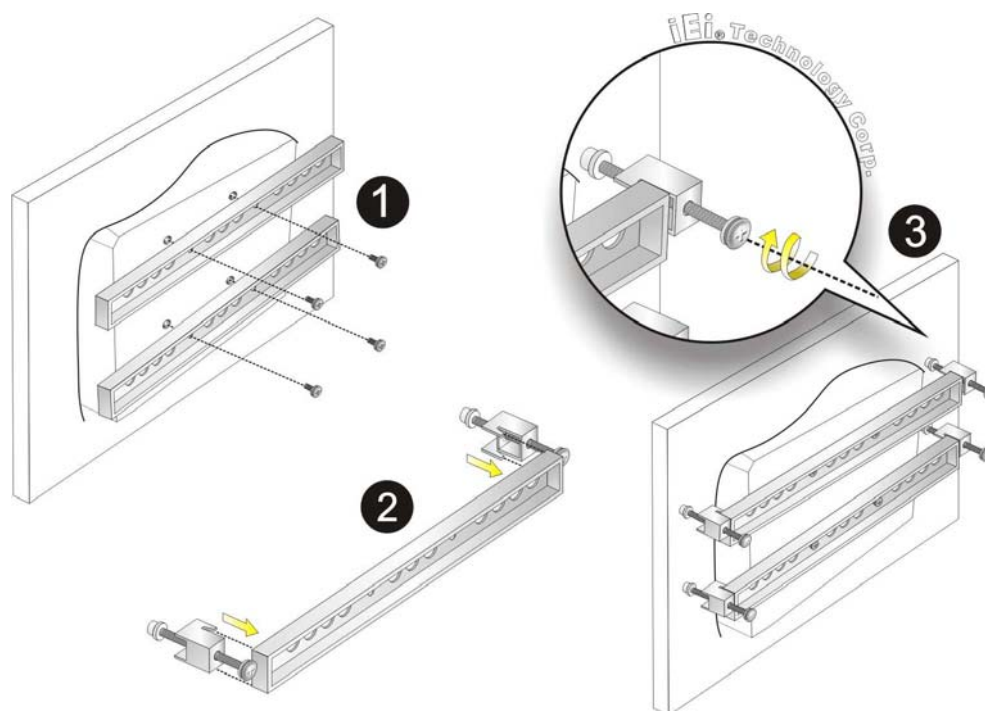

Figure 3-22: Panel Mounting
Secure the two panel mounting brackets to the rear of the panel PC by inserting the four retention screws into the VESA mounting holes (**Figure 3-22 ①**).
Insert the panel mounting clamps into the pre-formed holes along the two edges of the panel mounting brackets (**Figure 3-22 ②**). There are a total of 4 panel mounting clamps for AFL-HM55 Series.
Tighten the screws that pass through the panel mounting clamps until the plastic caps at the front of all the screws are firmly secured to the panel (**Figure 3-22 ③**).